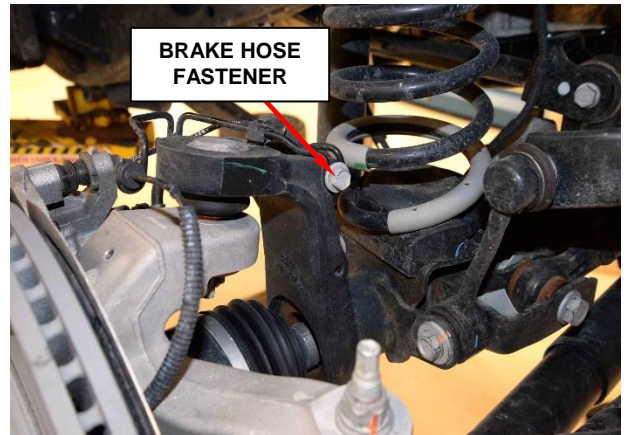

Figure 11 – Steering Knuckle Fastener
15. Remove the brake hose mounting fastener on the on the steering knuckle (Figure 11).
26. Position the brake hose wire form to the steering knuckle and install the bolt and tighten to 25 N·m (18ft.lbs.) (Figure 11).